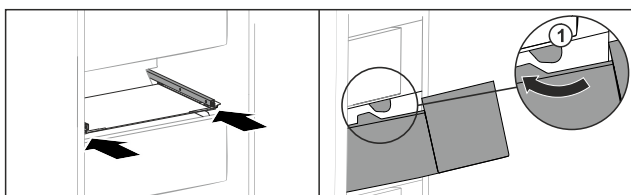

Fig. 204
- Vendoseni sirtarin mbi ndalues Fig. 204 (1).